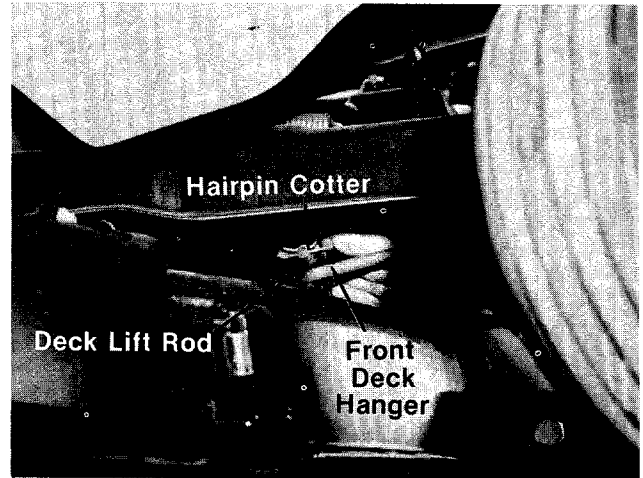

FIGURE 34.
2. Remove hairpin cotter from deck lift rod located at the front deck hanger bracket. See figure 34.